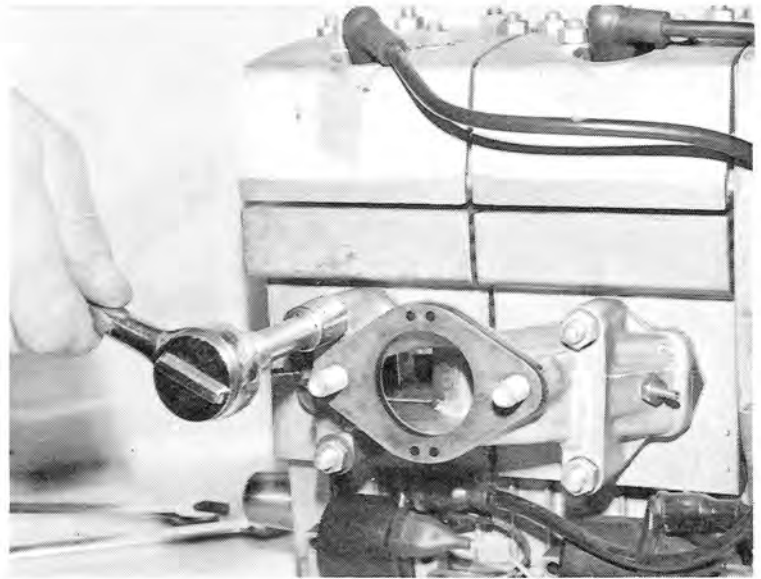

FIG. 1-14
Remove the four (4) intake manifold nuts and washers. Remove manifold assembly and insulators. See Figs. 1-14, 1-15.